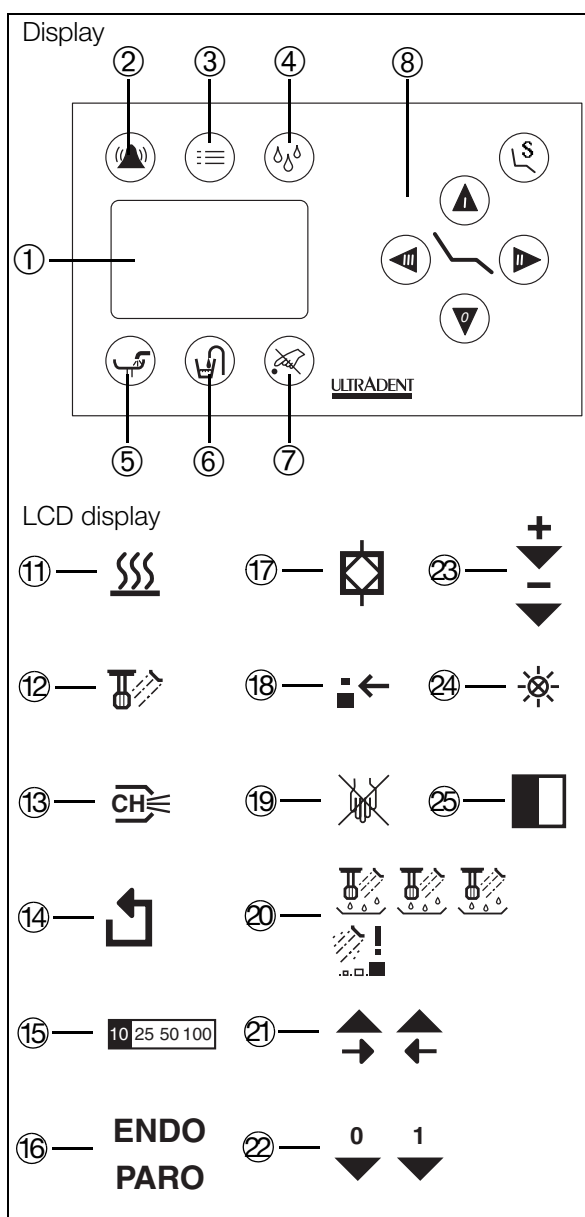

Fig. 29
You can activate or deactivate the spray cooling function using the foot control. When the spray cooling function is activated, the spray pre-selection display ⑫ (Fig. 29) on the control panel lights up.
The unit is fitted with a chip blower as standard. The display lights up when it is switched on ⑬ (Fig. 29).